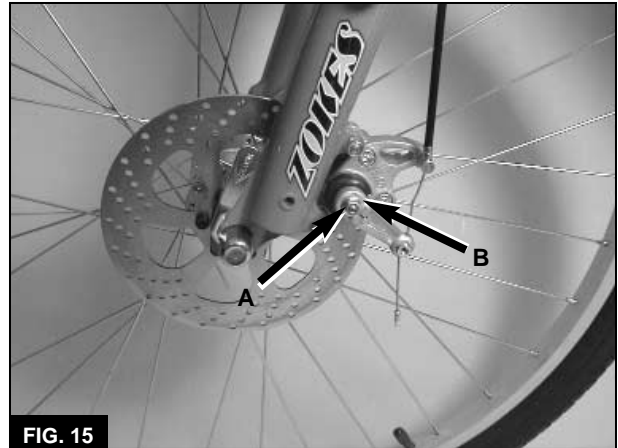

FIG. 15
1. Hold the adjuster (A, **Figure 15**) with an Allen wrench, and loosen the adjuster locknut (B, **Figure 15**).
4. Hold the adjuster with an Allen wrench, and tighten the locknut (B, **Figure 15**) securely.